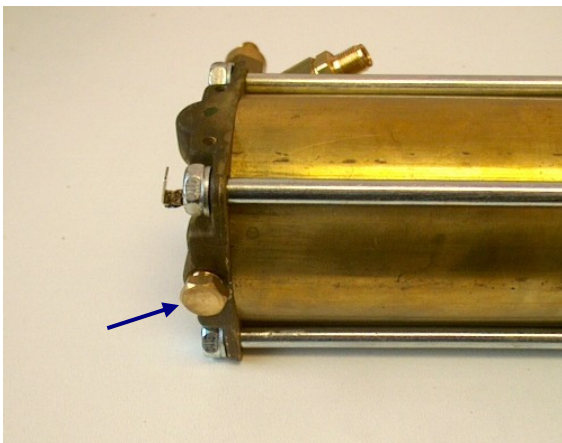

Fig. 10
8. Empty the pressure boiler, by carefully opening the drain plug (Fig. 10)